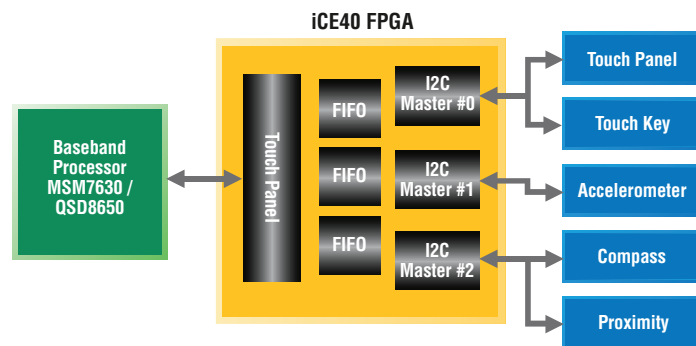

Figure 3. EBI2 to Triple I²C Master Controller Using an iCE40 FPGA
- Bridges from a processor external bus to offer additional I²C master controllers (see Figure 3)